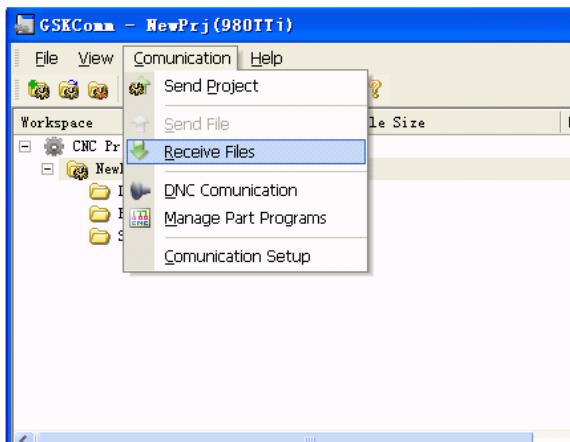

Fig.1
① Click the option [Receive files from CNC] in [Communication] and GSKComm can receive files from the CNC after the current project is selected as follows Fig.1;